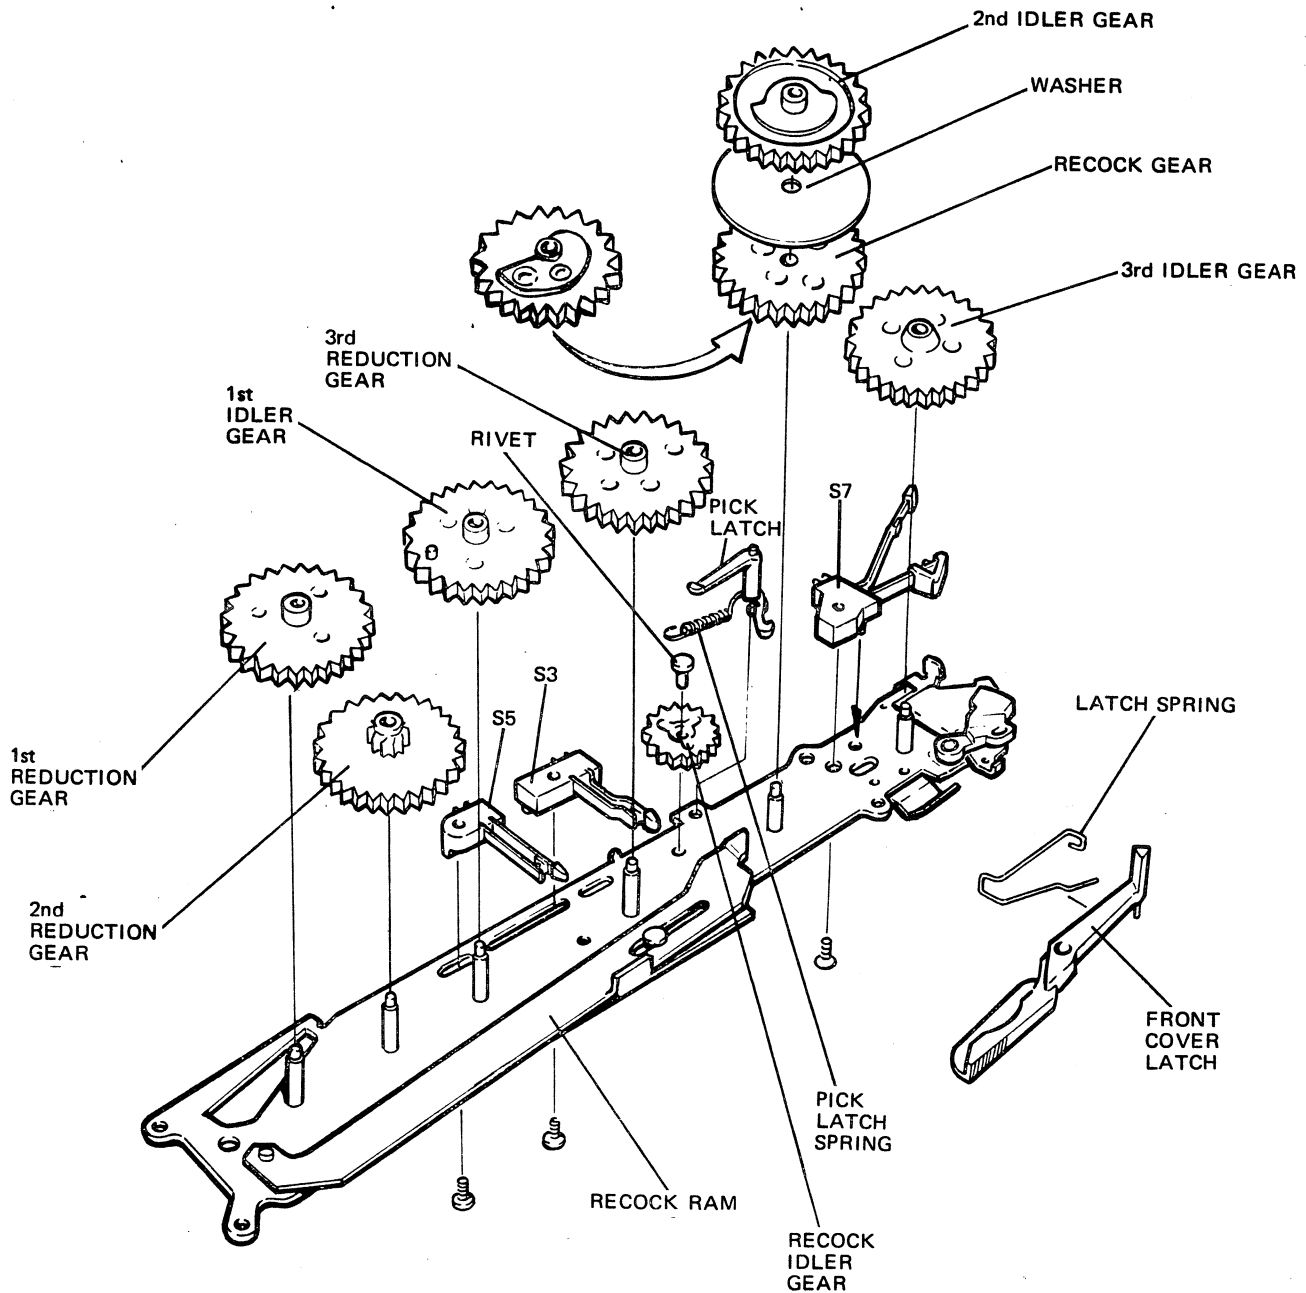

FIGURE 2-7 GEAR TRAIN, EXPLODED VIEW
c. Switch S3, normally closed, is opened by the recock ram located in the gear train assembly. See Figure 2-7. As the exposure sequence begins, S3 actuates by opening a delay circuit in the integrated circuit which retards the start of the actual exposure approximately forty milliseconds so that mirror bounce will have subsided before a picture is taken. At the end of